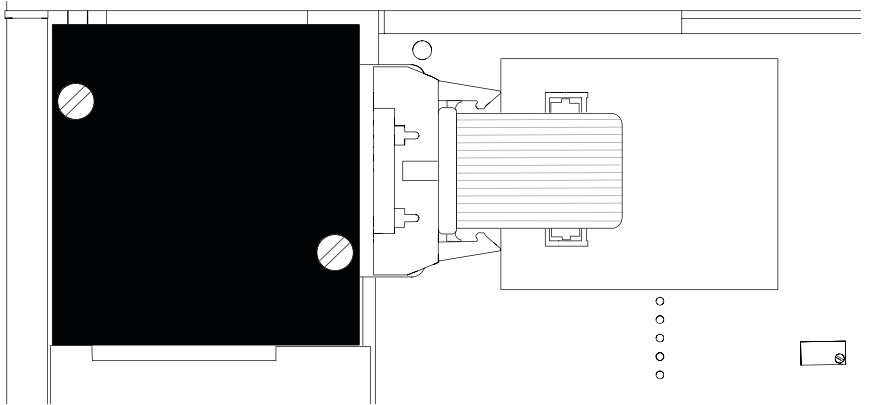

Figure 21 Black foam
5. Remove black foam (Figure 21).